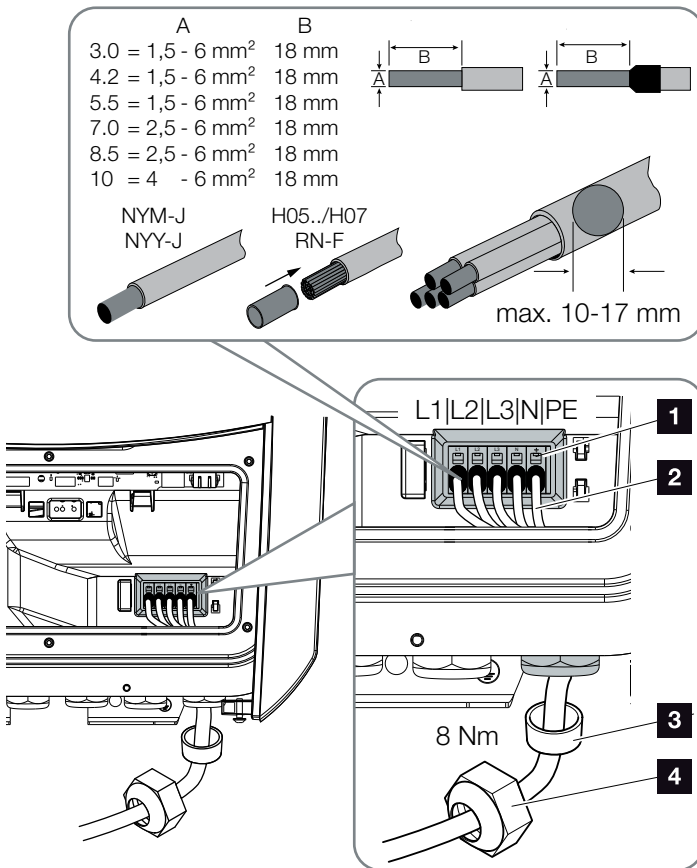

Fig. 23: Connecting mains cable to the inverter
9. Connect the wires of the mains cable to the AC terminal in accordance with the labelling.   Fig. 23, It. 1